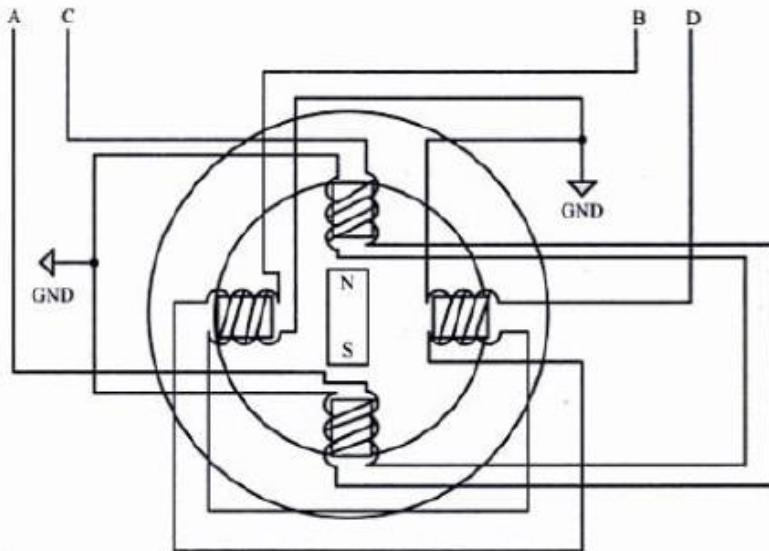

Fig. 2.19 Stator Winding details for a 2 Phase unipolar stepper motor
**2. Bipolar** A bipolar stepper motor contains single winding per phase. For reversing the motor rotation the current flow through the windings is reversed dynamically. It requires complex circuitry for current flow reversal. The stator winding details for a two phase unipolar stepper motor is shown in Fig. 2.19.